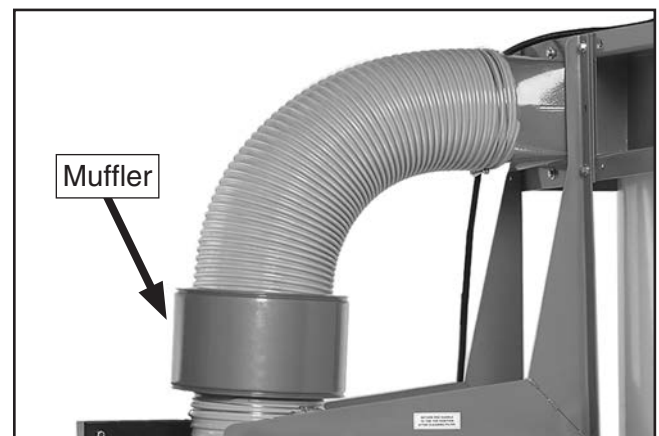

Figure 17. Muffler properly positioned between two gray flexible hoses.
14. Attach 8" x 5" gray flexible hose between canister adapter and muffler with (2) 8" hose clamps, then attach 8" x 20" gray flexible hose between muffler and outlet port with (2) 8" hose clamps (see **Figure 17**).